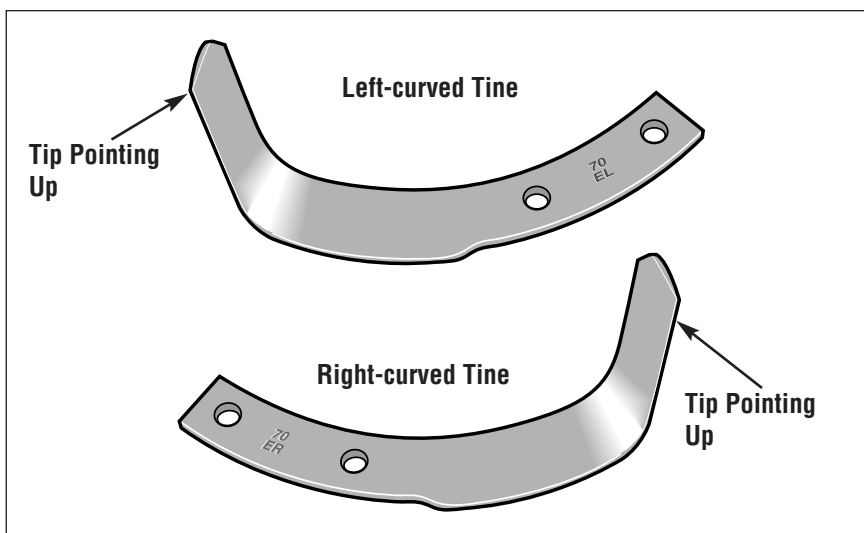

Figure 1: Left-curved tines and right-turned tines.
A. Letters and numbers may be stamped on the side of each tine with factory code marks which contain either an "L" (on left-curved tines) or an "R" (on right-curved tines). See Figure 1.